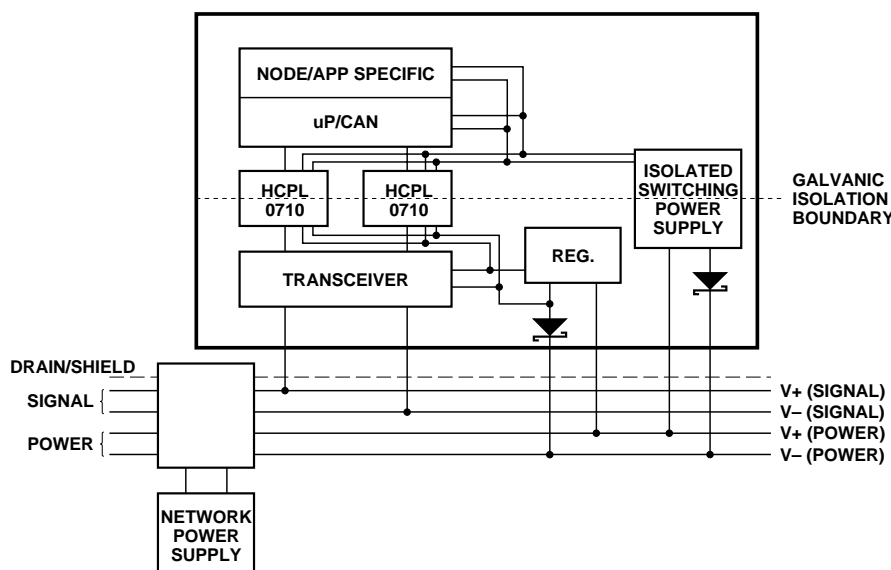
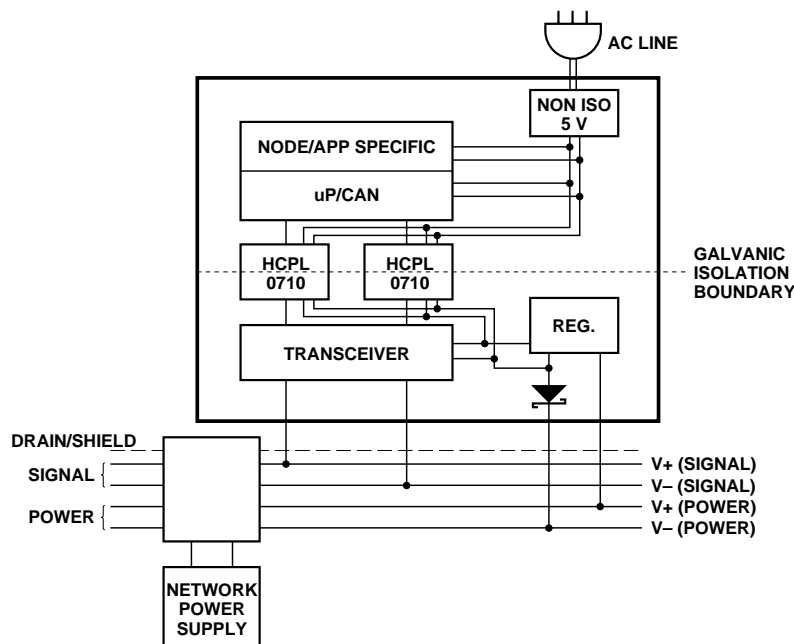
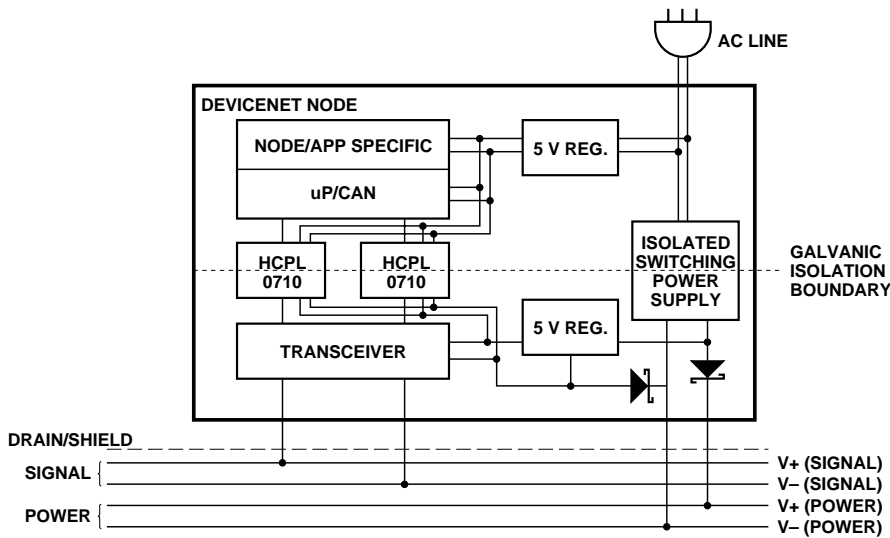

Figure 18. Isolated Node Powered by the Network.
Figure 19. Isolated Node with Transceiver Powered by the Network.
Figure 20. Isolated Node Providing Power to the Network.
by the Network (Figure 18), Isolated Node with Transceiver Powered by the Network (Figure 19), and Isolated Node Providing Power to the Network (Figure 20).
This type of node is very flexible and as can be seen in Figure 18, is regarded as “isolated” because not all of its components have the
Figure 19 shows a node powered by both the network and another source. In this case, the transceiver and isolated (network) side of the two optocouplers are
Figure 20 shows a node providing power to the network. The AC line powers a regulator which provides five (5) volts locally. The AC line also powers a 24 volt isolated supply, which powers the network, and another five-volt